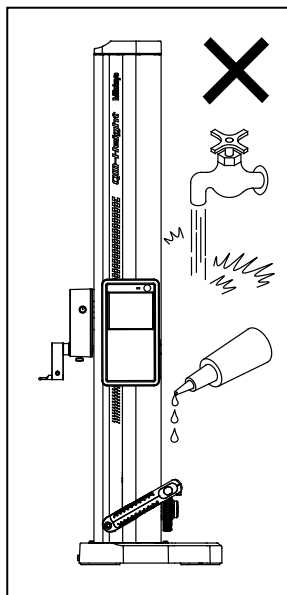

Fig. 1
- Do not use this gage in locations where it will be directly exposed to cutting fluids, water, dust, etc. (Fig.1)